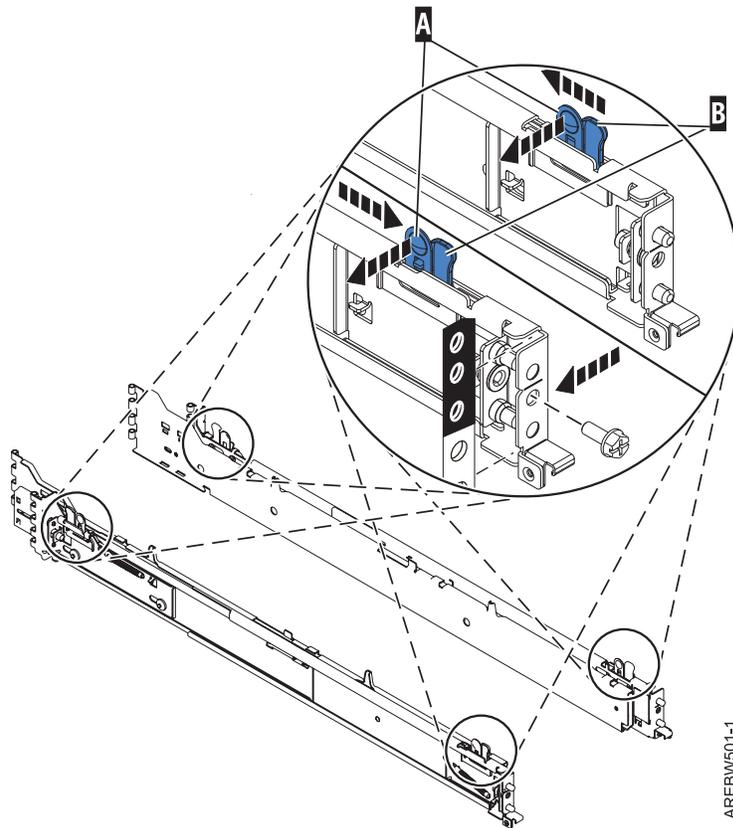

Figure 22. Front slide rail alignment pin, retaining screws, and latch bracket
1. With the right rail, twist the latch assembly release tab (**A**) in Figure 22 on page 32. Slide release tab (**B**) back to the retracted position and lock the latch assembly. The back-alignment pins must be fully retracted.
2. After the alignment pins are retracted, insert the right side rail front-alignment pin, as shown in Figure 22 on page 32, into the rack front flange hole. This hole is identified by the mark that you previously made. Have a second person hold the rail securely in the front hole.